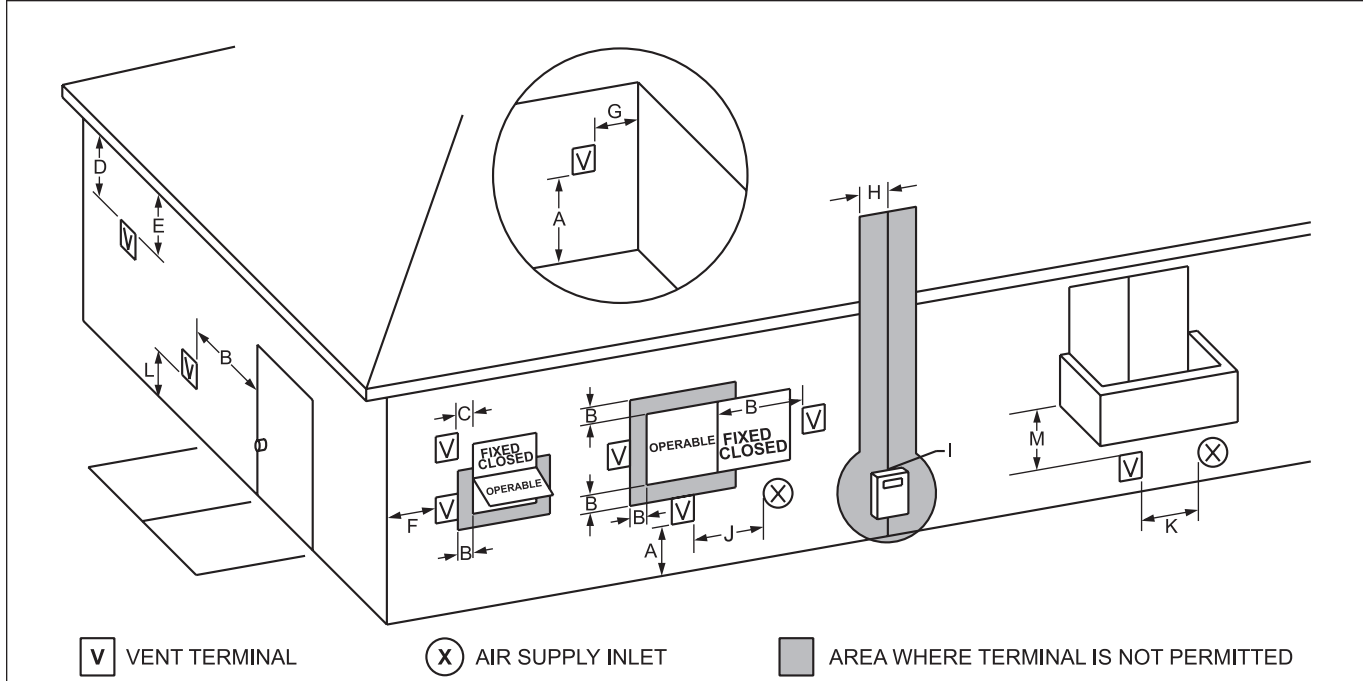

Figure 3. Combustion Air and Vent Through Side Wall.
1. **Figure 3** shows the requirements for mechanical vent terminal clearances for the U.S. and Canada.
4. If the Pennant is side-wall vented to the same wall, locate the vent terminal at least 3 feet (0.9m) horizontally from the combustion air terminal, and locate the vent terminal at least 1 foot (0.3m) above the combustion air terminal (see **Figure 3**).